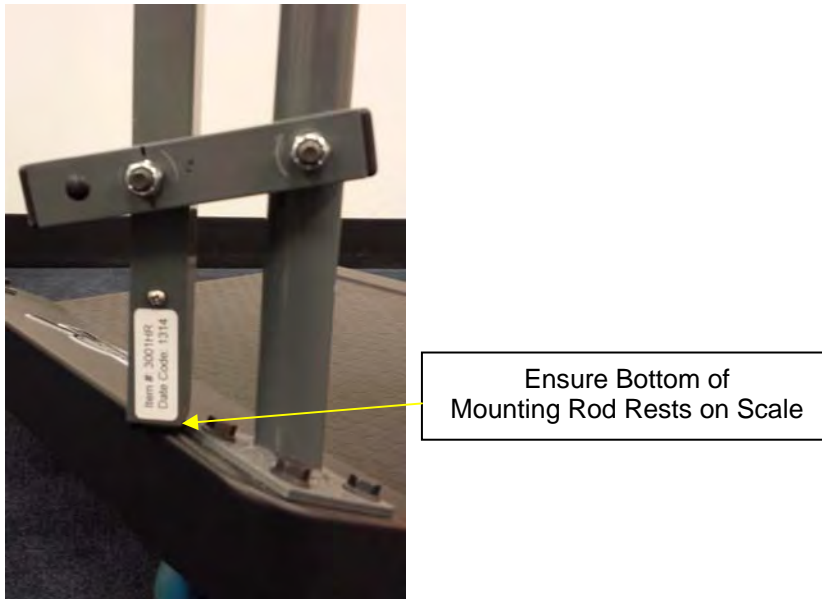

Figure 7
7. Ensure that the bottom of the mounting rod rests evenly on the edge of the scale (See Figure 7).